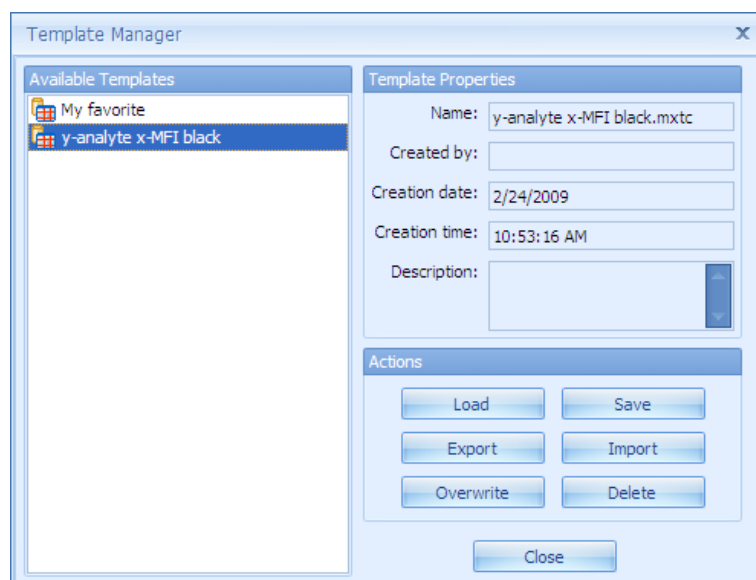

Figure 7.12 Chart Template Manager shows available templates
- ⇒ The Chart Template Manager appears (Figure 7.12).